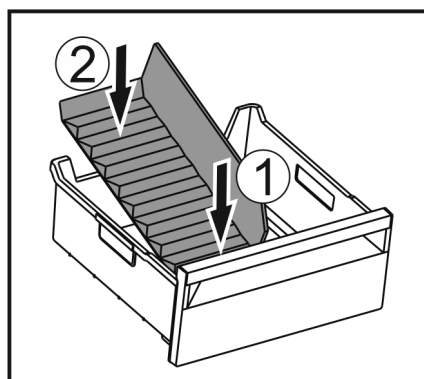

Fig. 50
- Put in the divider at the front first Fig. 50 (1).
- Lower the rear part Fig. 50 (2).